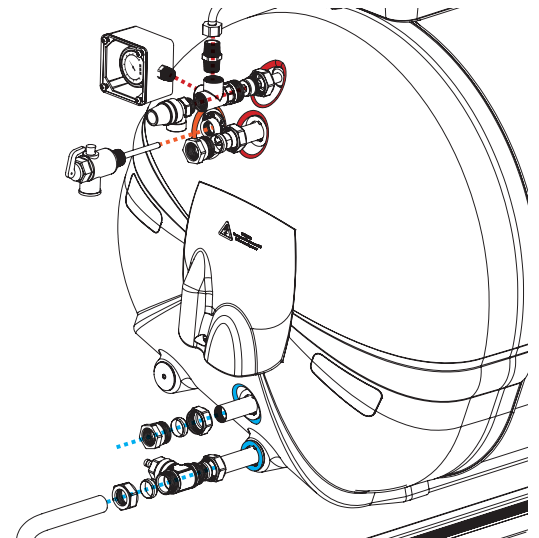

Figure 16. Connection end (closed circuit)
Slide the test point assembly union onto the closed circuit connection, tighten the assembly. Insert the tank end of the cold-side rigid pipe into the 22 mm connection union (Figure 16).
1. The cold water connection is made at the blue disc. Connect the cold water supply to the end of the $\frac{3}{4}$ " BSP female thread of the T-piece in the cold pipe assembly (see *Figure 16*).